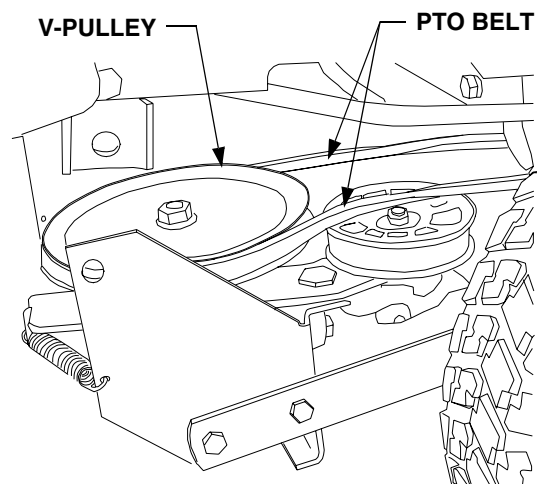

Figure 21
10. Routing the PTO belt rearward under the tractor frame, install the narrow side of the belt in the V-pulley on the snow thrower gearbox. See Figure 21. Make certain there is no more than a 1/4 inward twist in both runs of the belt.
5. Remove the PTO belt from the rear V-pulley on the snow thrower gearbox (Refer to Figure 21)